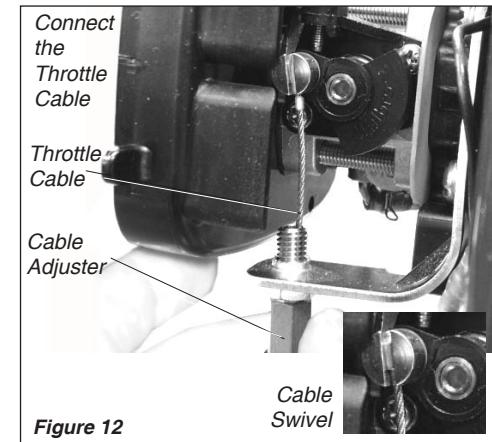

Figure 12
2. Slip the throttle cable into the cable adjuster and hook the bullet end of the cable onto the swivel. See Figure 12.